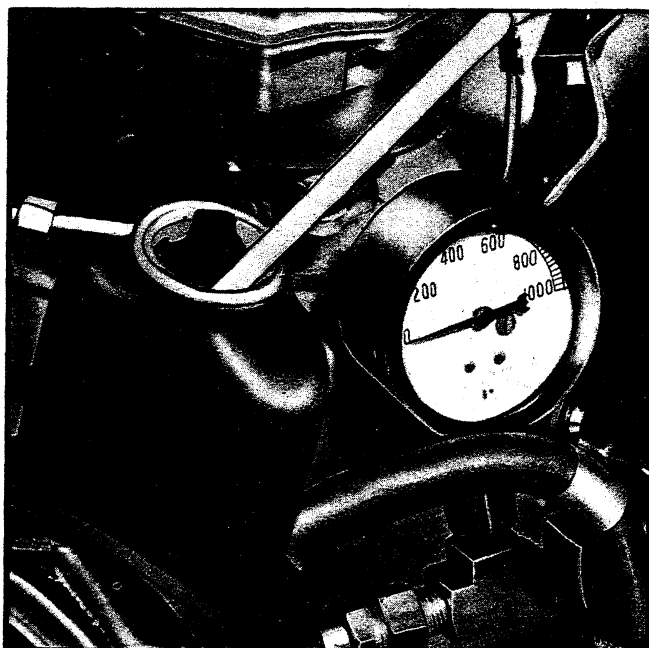

Fig. 66—Power Steering Diagnosis
- shown in Figure 66. Gauge must be between shut-off valve and pump. Open shut-off valve.